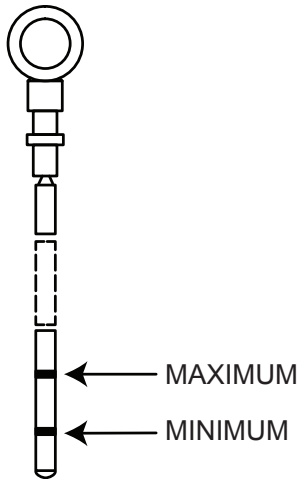

FIGURE 22 - PROPER OIL LEVEL
- Make sure that the oil level is between the marks on the dip stick. See FIGURE 22. If the oil level is just above the ADD mark then add more oil.
- Fill the oil sump up to the MAX level as indicated on the dipstick. See TABLE 11 for oil capacity for the specific diesel engine. See FIGURE 22.